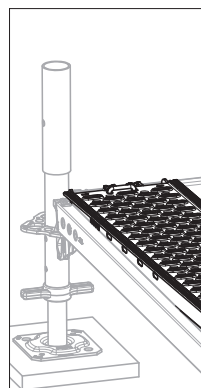
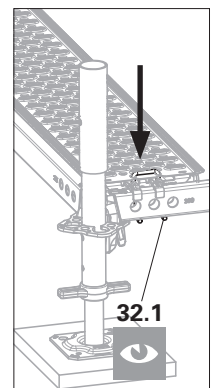

Fig. A1.07a
Fig. A1.07d
3. Lift locks (**32.1**) drop beneath the crossbar and secure the deck. (Fig. A1.07a – Fig. A1.07d)
Have all lift locks (**32.1**) on the deck dropped beneath the crossbar? If not, lift the deck slightly and let it drop into position or operate the lift lock manually. (Fig. A1.07d)